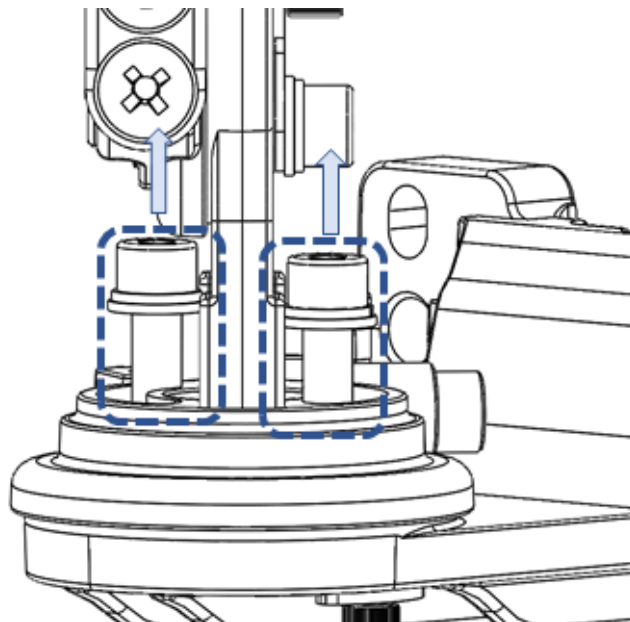
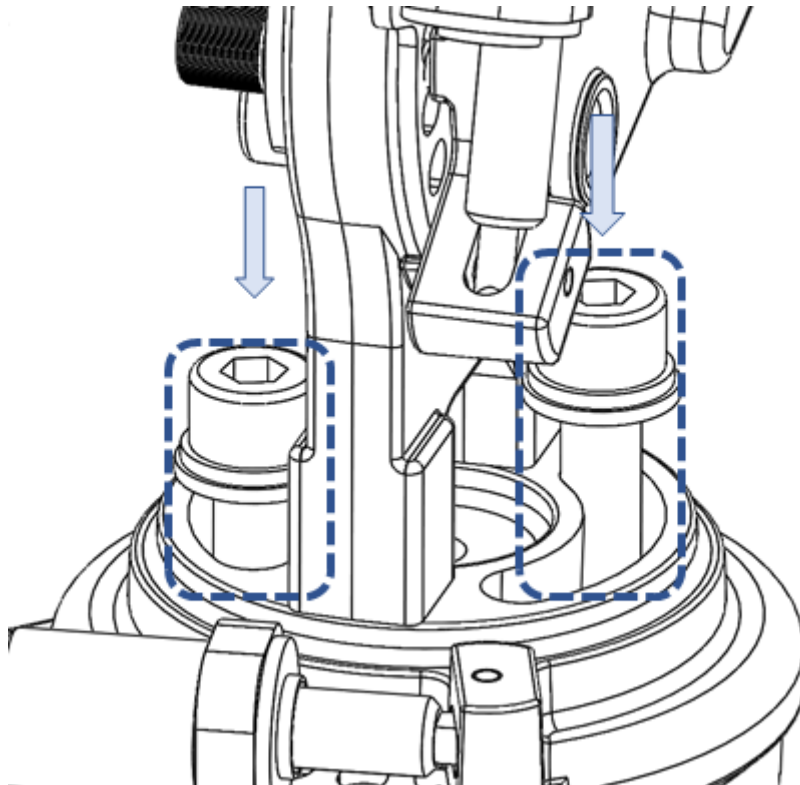

Figure 37: Removing the Azimuth Screws (Side View)
Figure 39: Repositioning the Azimuth Screws (Side View)
3. Insert the Azimuth Screws in the holes opposite their previous locations. For example, if you are adjusting the azimuth to the left, move the Azimuth Screw to the left of the device from the left hole to the right hole and move the Azimuth Screw to the right of the device from the right hole to the left hole, as shown in **Figure 37** and **Figure 39**. This will place the azimuth at an angle of 45° to the left or 45° to the right.